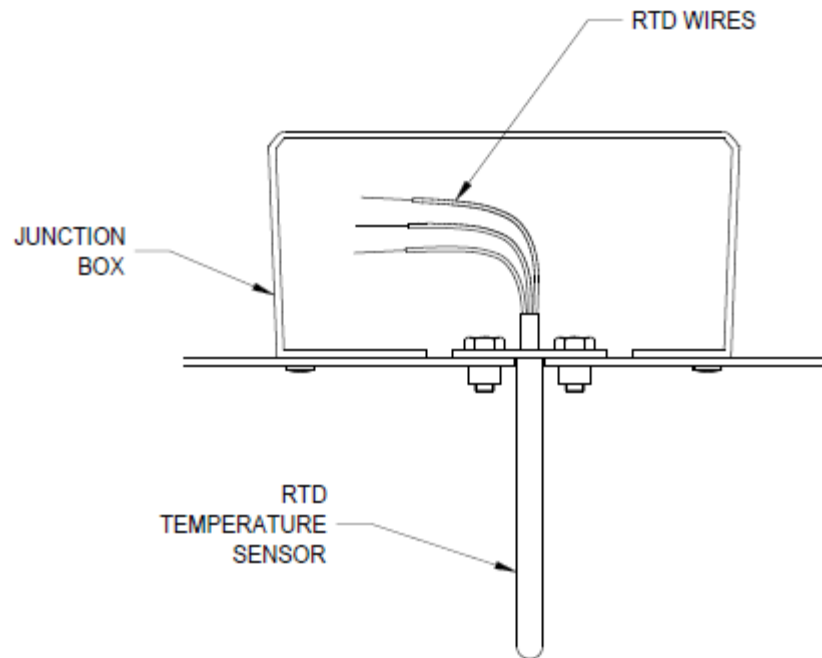

Figure 4
- The Station has a junction box containing a 3-wire RTD temperature sensor. The red, black, and white wires connect to the terminals on the Monitor as indicated below, Figure 4. Interconnecting wire/cable and conduit are not provided.